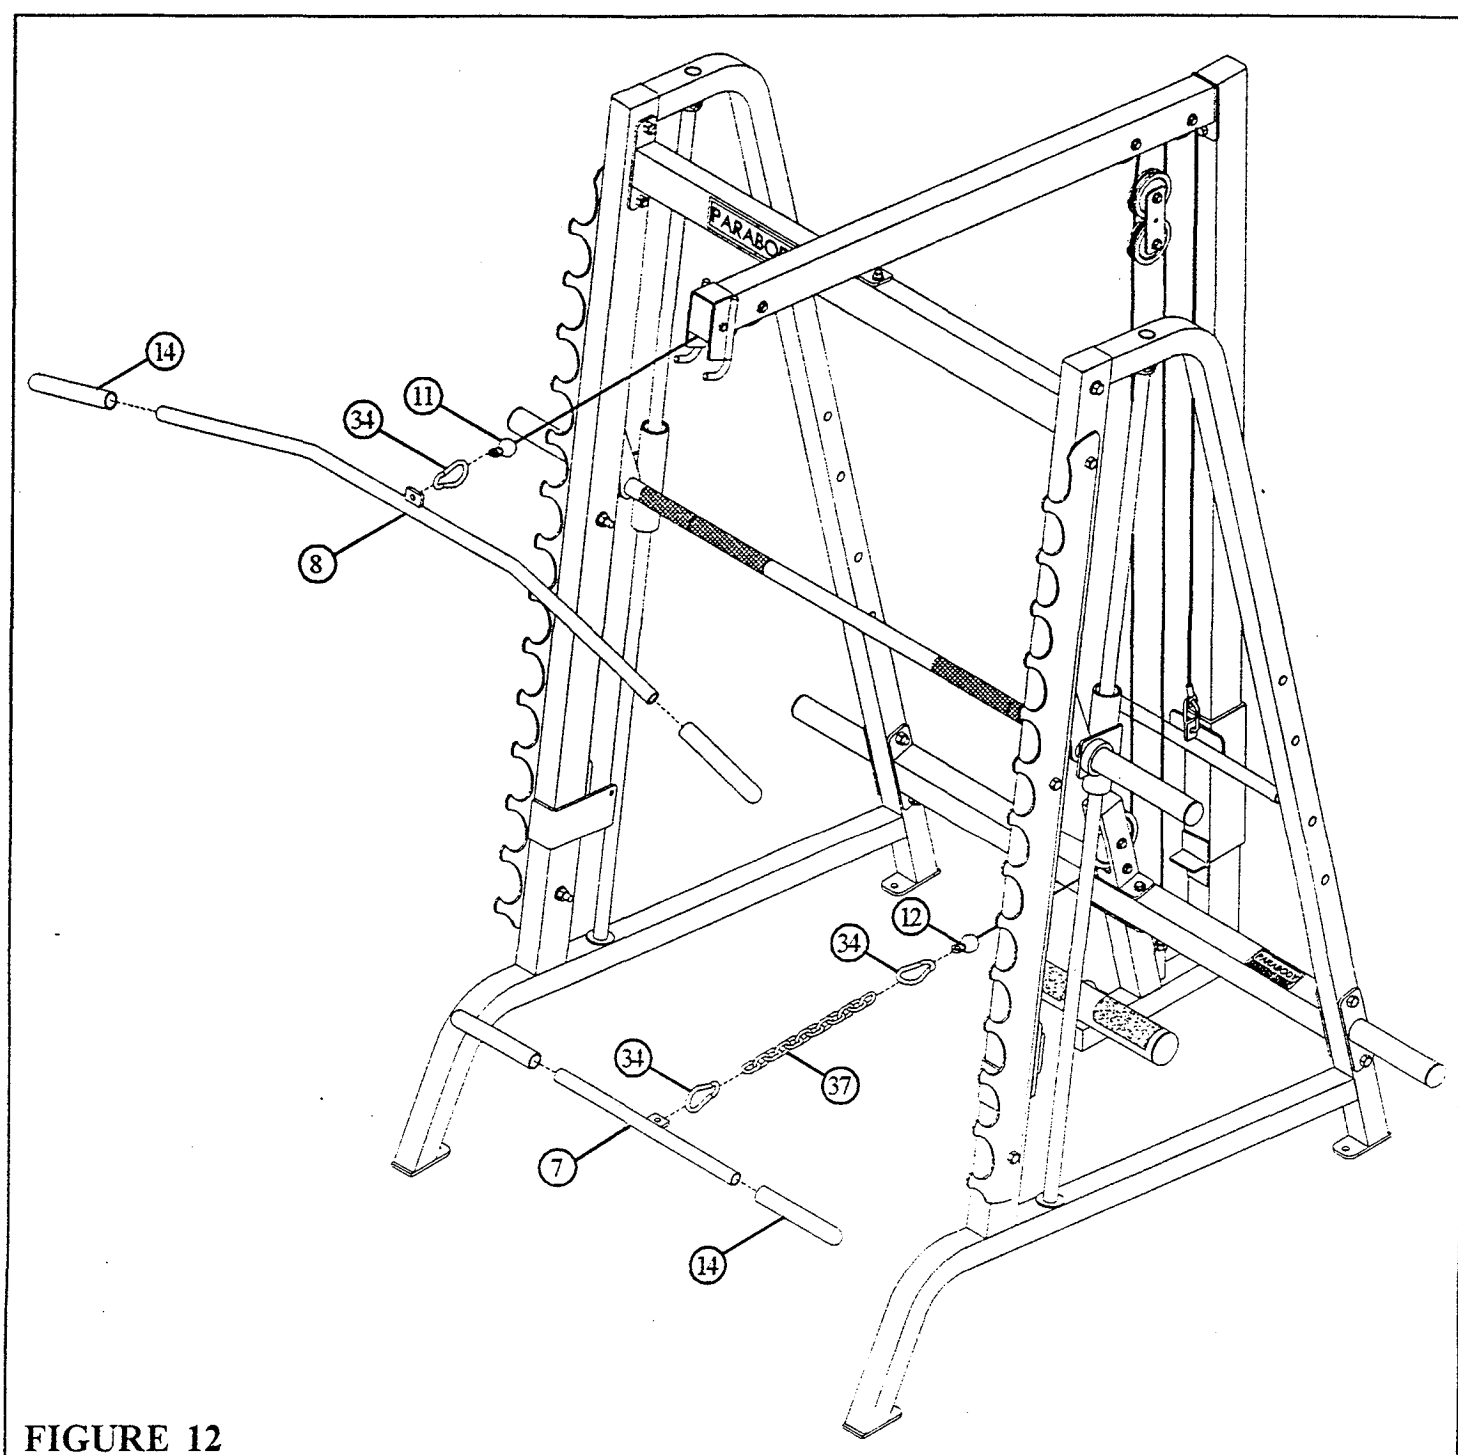

FIGURE 12
- Slide two 1 X 8" GRIPS (14) on the LOW ROW BAR (7) and two 1 X 8" GRIPS (14) on the LAT BAR (8) as shown in FIGURE 12.
- Attach the LAT BAR (8) to the ball end of the upper CABLE (11) using one 5/16" SNAP HOOK (34) as shown in FIGURE 12.
- Attach the LOW ROW BAR (7) to the ball end of the lower CABLE (12) using one 12-LINK CHAIN (37) and two 5/16" SNAP HOOKS (34) as shown in FIGURE 12.